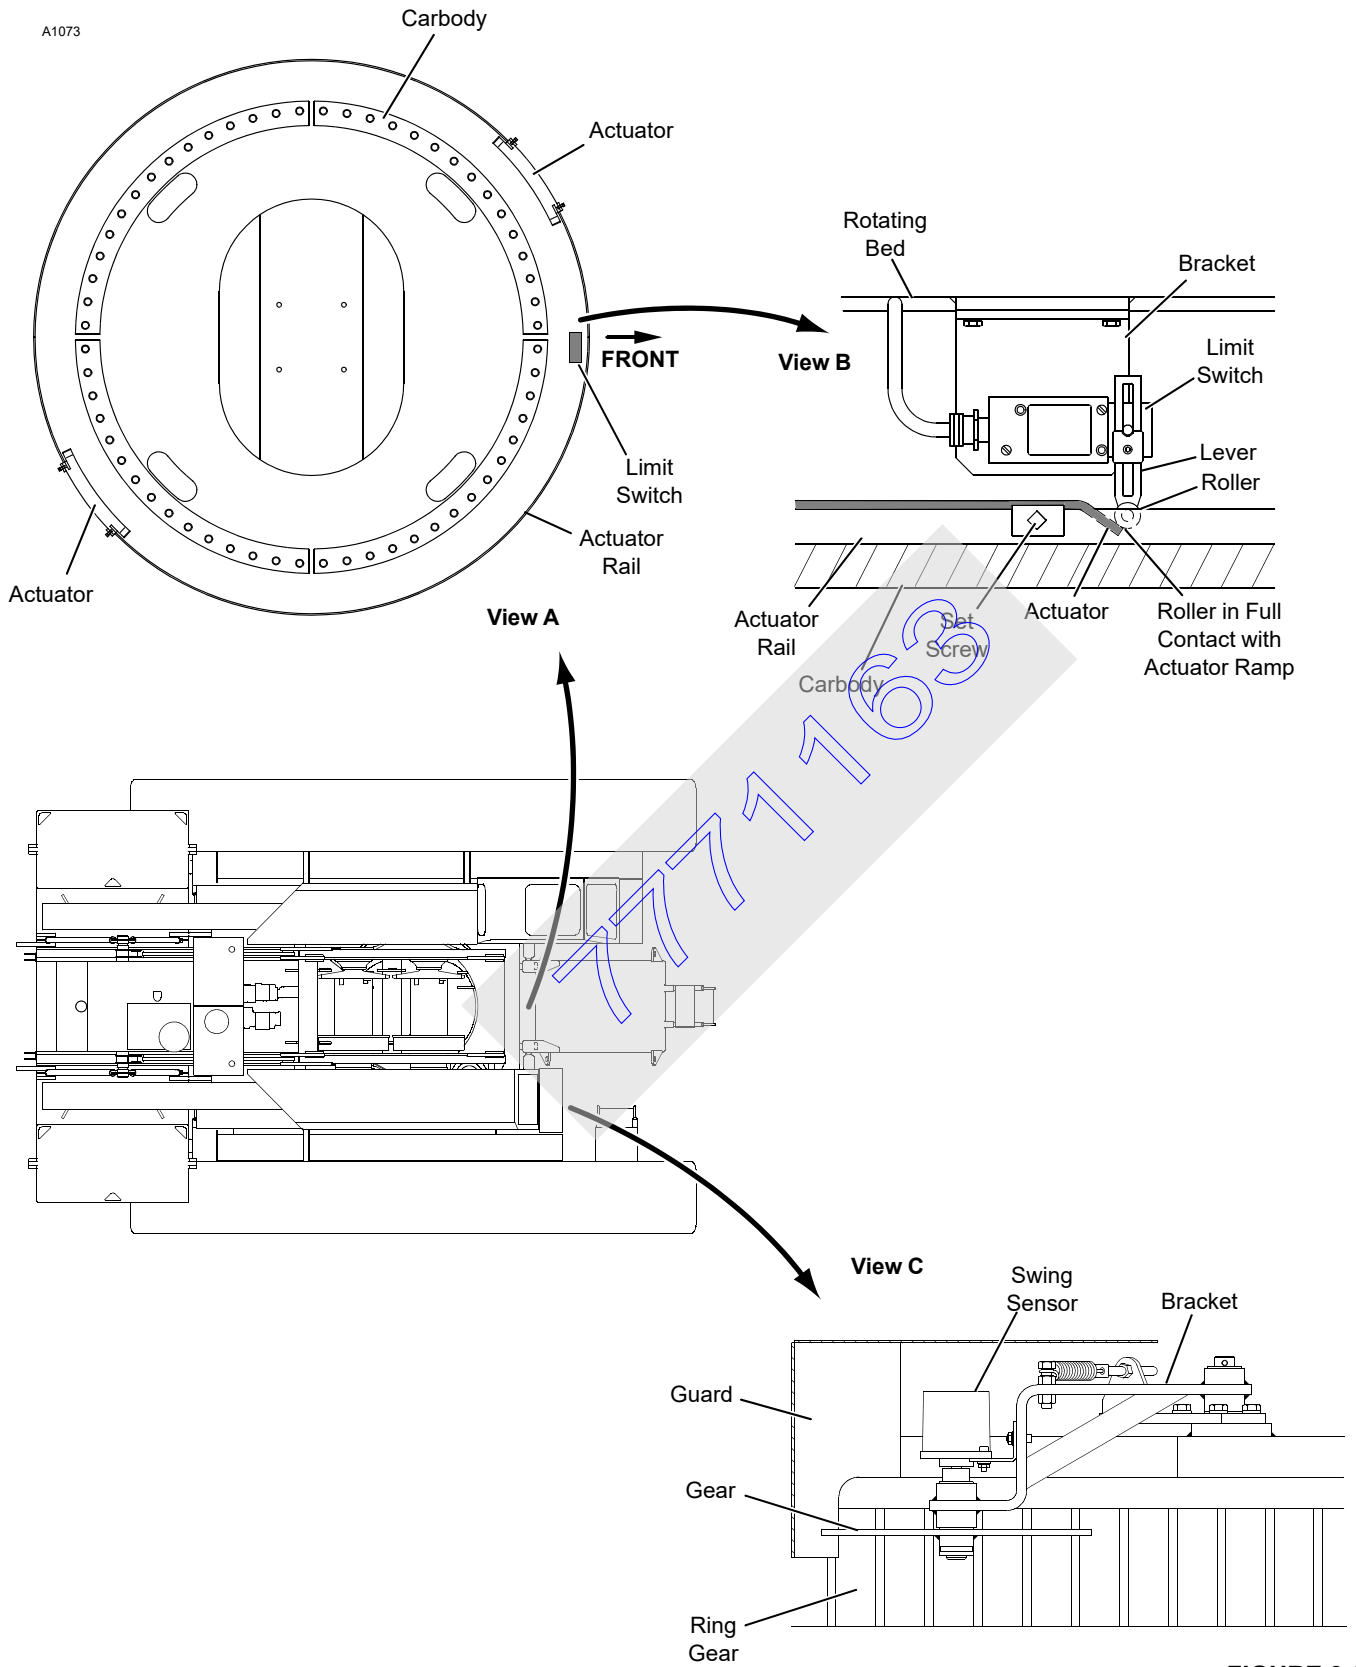

FIGURE 3-33
The system consists of the following components (see Figure 3-33):
1. At initial set-up only, adjust limit switch lever so roller is in full contact with actuator ramp (Figure 3-33).
6. Place actuator on rail (Figure 3-33 View B) — to right of limit switch for swing right limit or to left of limit switch for swing left limit — so actuator just lightly contacts limit switch roller. *Do not trip limit switch open while performing this step.*